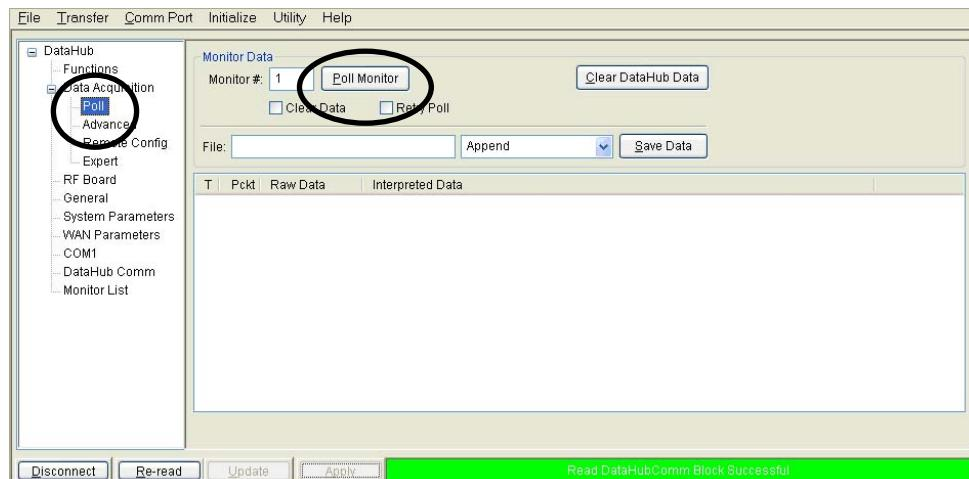

Fig. 8.14: Poll Monitor
- 8.7.4 Click on **Poll > Poll Monitor**. Fig. 8.14